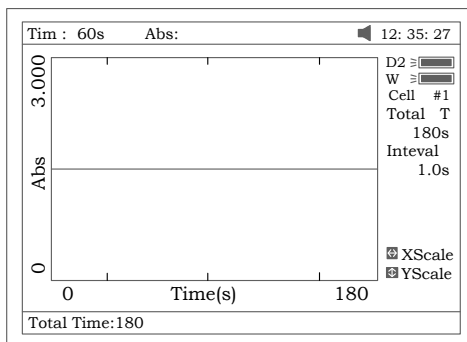

Fig 54
1. Press **[F1]** to set "Total Time", "Delay Time", "Time interval", and input the value by pressing the numeric keypad (Fig 54).